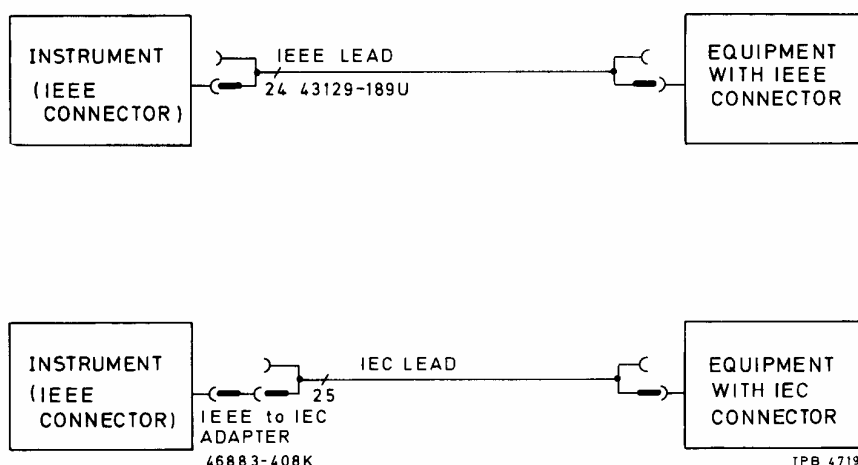

Fig. 2-1 GPIB interconnections.
- (7) Connection to other equipment which has a 24-way bus connector to IEEE Standard 488 can be made with the GPIO lead assembly 43129-189U, available as an optional accessory. An IEEE-to-IEC adapter 46883-408K is also available for interfacing with systems using a 25-way bus connector to IEC Recommendation 625—see Fig 2-1.